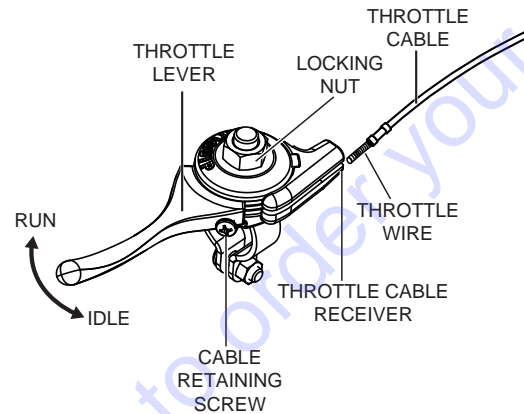

Figure 12. Adjusting Cable Tension
3. Place the throttle in the run position (Figure 12).
7. On the throttle lever, slightly loosen the locking nut and cable retaining screw as shown in Figure 12.
8. Ensure that the cable housing is seated in the throttle cable receiver as shown in Figure 12.
9. Route throttle wire past the cable retaining screw (Figure 12) approximately 1/2". To secure throttle wire, tighten the cable retaining screw.
10. Adjust cable tension by loosening or tightening the locking nut and cable retaining screw on the throttle lever (see Figure 12).